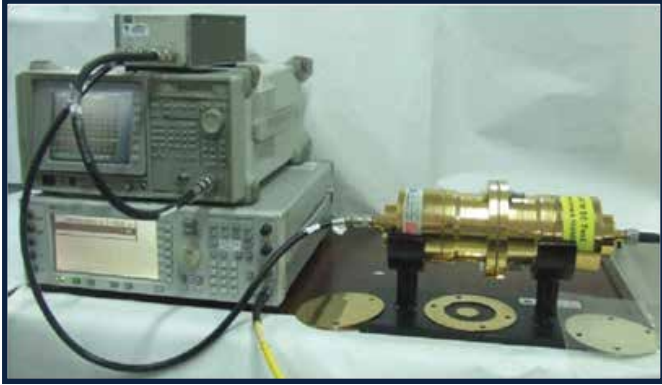

Figure 13: ASTM D4935 Shielding effectiveness tester
- **Better Shielding Capability (dB):** A shielding enclosure is a good way to provide immunity or prevent emission internally and it is common to see this design in electronic devices. The general test set up is shown in Figure 13.